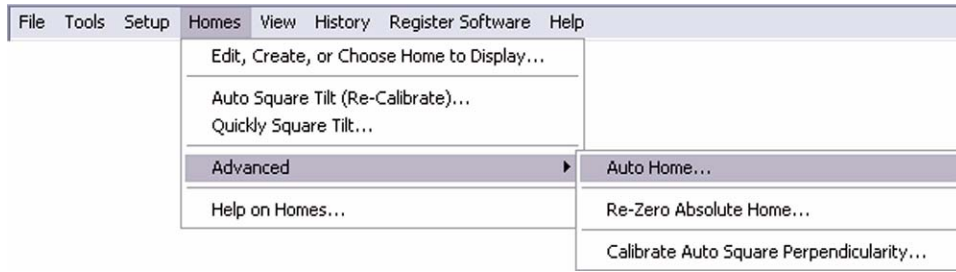

Figure 4-17: Selecting Auto Home in OMAX Make
15. Auto Home the machine to ensure that the machine's zero (absolute home) position is set (Figure 4-17).